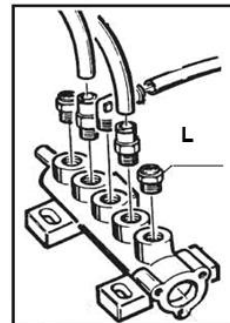

Fig. 5-6
- To clean or replace the opening/closing jaw silencer, proceed as follows (fig. 5-6):